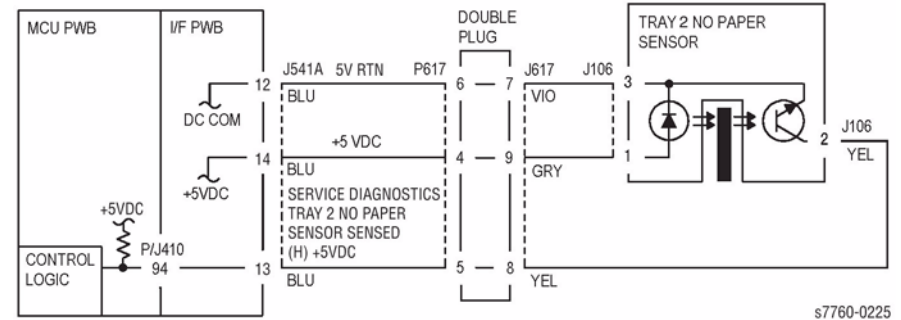

Figure 1 003-950 Tray 2 No Paper Sensor
Check the circuit of the Tray 2 No Paper Sensor (Figure 1). Refer to Section 6, Transmissive Sensor Procedure for troubleshooting procedure.
- Ensure that the connectors shown in the circuit diagram (Figure 1) are securely connected and that the wires are not damaged.